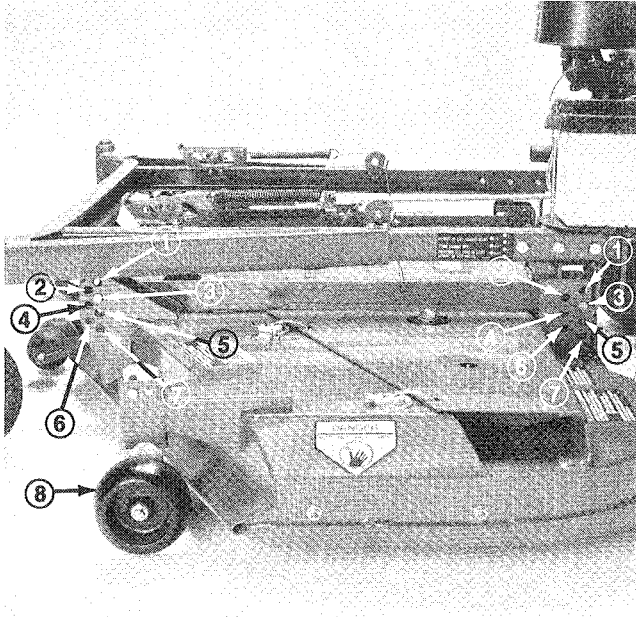

Figure 7
3. Mount cutting unit to carrier frame with (4) clevis pins and hair pin cotters (Fig. 7).
The height-of-cut is adjustable from 1 to 4 inches (25 to 102 mm) in 1/2 inch (13 mm) increments by relocating four clevis pins in different hole locations to prevent any operating and cutting unit (Fig. 7).
1. Remove hairpin cotter and clevis pin (Fig. 7) securing gage wheel to cutting deck.